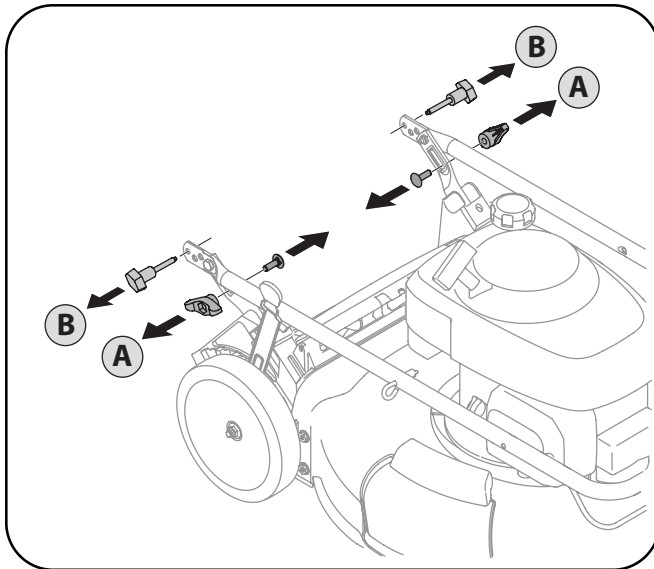

Figure 3-1
- a. Remove wing nuts and carriage bolts from slots in the lower handle as shown in Fig. 3-1.
- b. Remove t-bolts from upper handle as shown in Fig. 3-1. Do not loosen or remove adjacent hex head screws. Set t-bolts aside for use in step 2b of handle assembly.